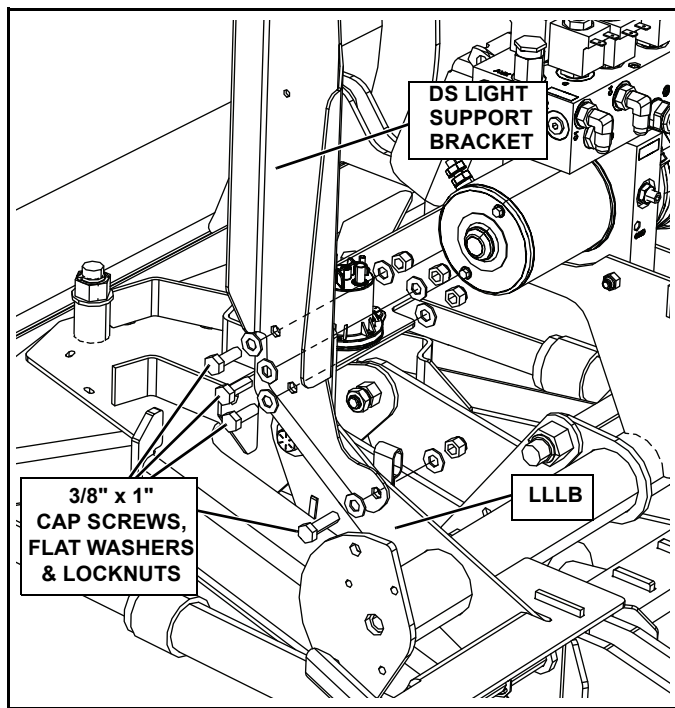

Figure 1-12
21. Remove left and right light supports from power pack carton. Attach passenger side light bar support to light/lift bar with (4) 3/8" x 1" screws, (8) washers, and (4) lock nuts from the light bar parts bag (part number 96106089). On the driver side, use 3/8" x 1" screw, (6) washers, and (3) lock nuts from the parts bag, plus (1) 3/8" x 1-1/2" screw already attached to the plow holding the power cord clamp. Do not tighten at this time. (See Figure 1-12.)